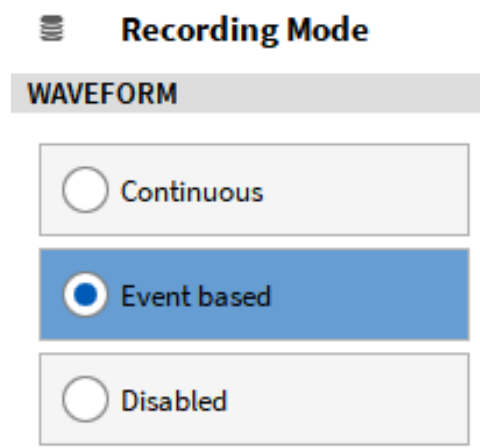

Fig. 9.34: Event based Waveform Recording selection
- Select *Event based Waveform Recording* as Recording Mode (see Fig. 9.34):